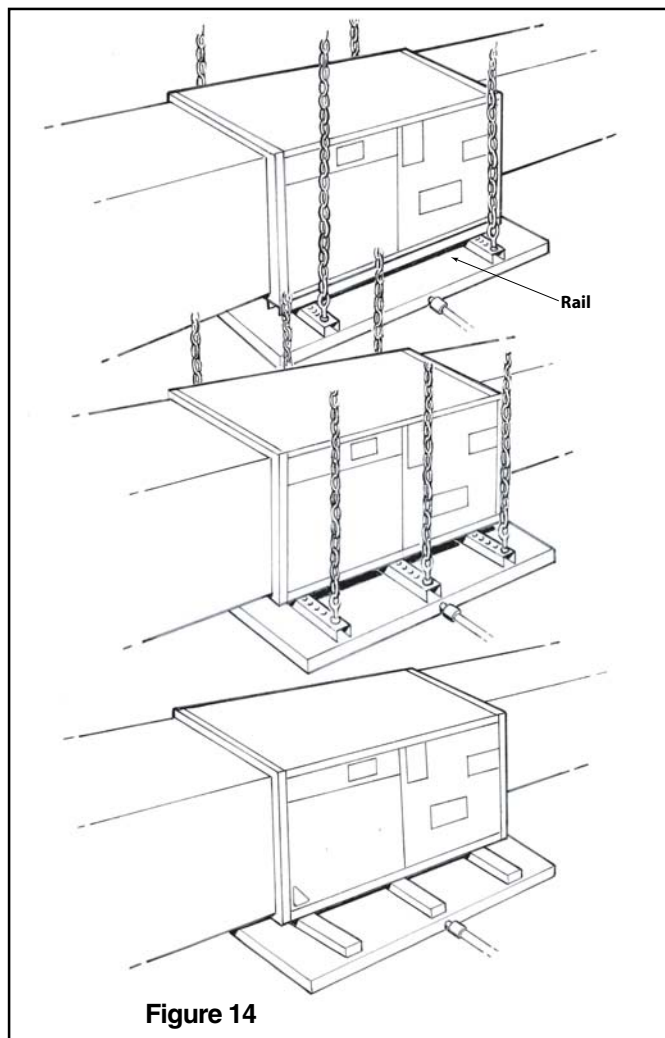

Figure 14
must remain unobstructed. If the unit is supported along the length of the front and back with rails, the air handler only needs to be suspended at both ends. See Figure 14.
- c. If the unit is suspended, it must be supported from the bottom near both ends as well as the middle to prevent sagging. The service access must remain unobstructed. If the unit is supported along the length of the front and back, the air handler only needs to be suspended at both ends. See Figure 14.